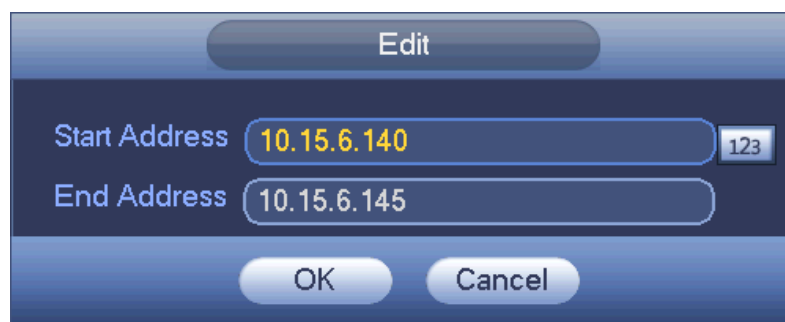

Figure 3-102
- Edit: Click it to edit start address and end address. See Figure 3-102. System can check the IP address validity after the edit operation and implement IPv6 optimization.